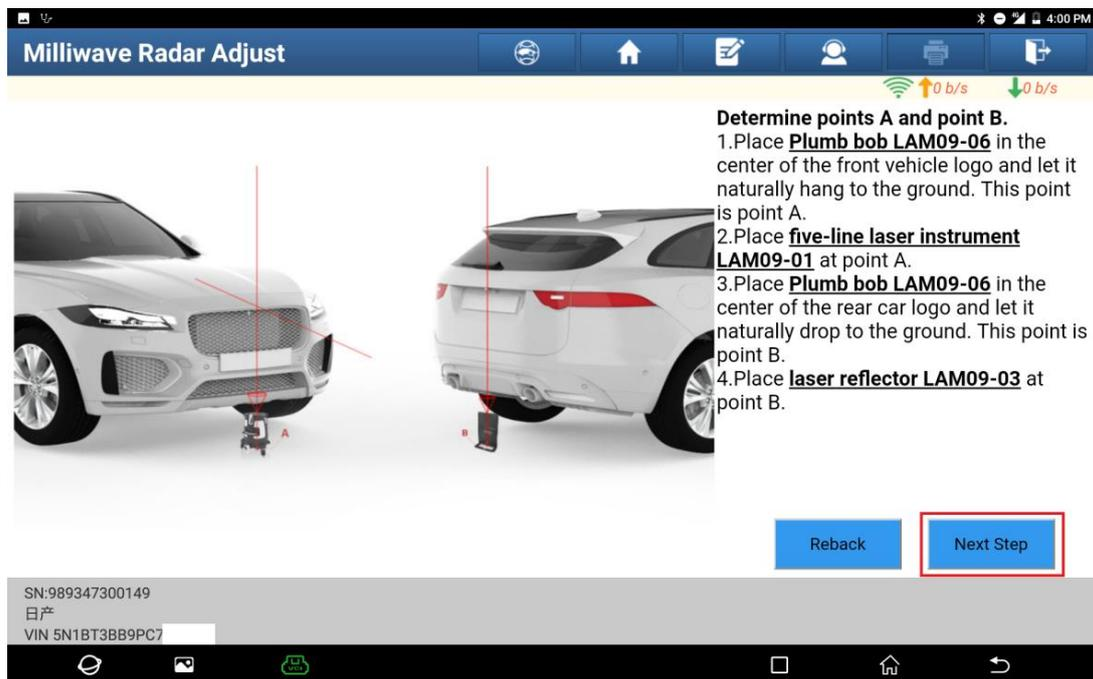

Figure 7
7. Click OK to determine point A and point B (as shown in Figure 7).